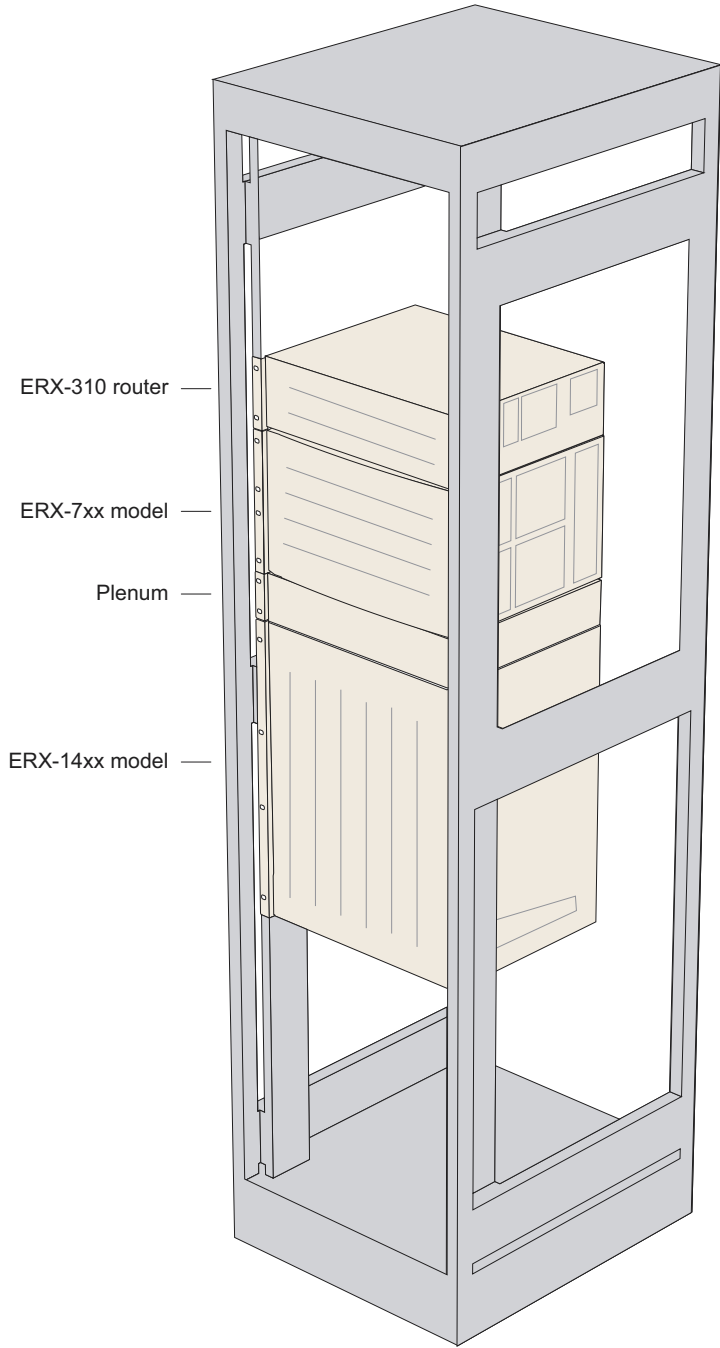

Figure 4-2 E-series routers installed in recommended order
Before installing the systems in a rack, consider the following guidelines and refer to Figure 4-2:
- You can install an ERX-14xx model, an ERX-7xx model, and an ERX-310 router together in the same rack (see Figure 4-2).
Figure 4-2 illustrates a distribution rack with one ERX-310 router, one ERX-7xx model, and one ERX-14xx model installed.